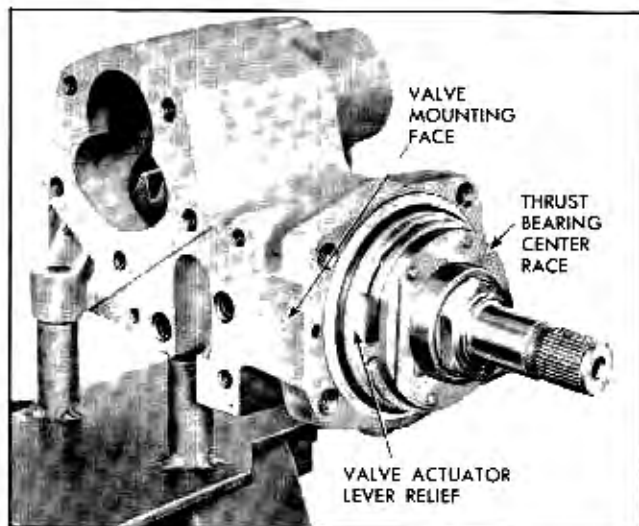

Fig. 9-60 Valve Actuator Lever Relief Alignment
4. Align valve actuator lever relief on adapter with valve assembly mounting face on housing. (Fig. 9-60).